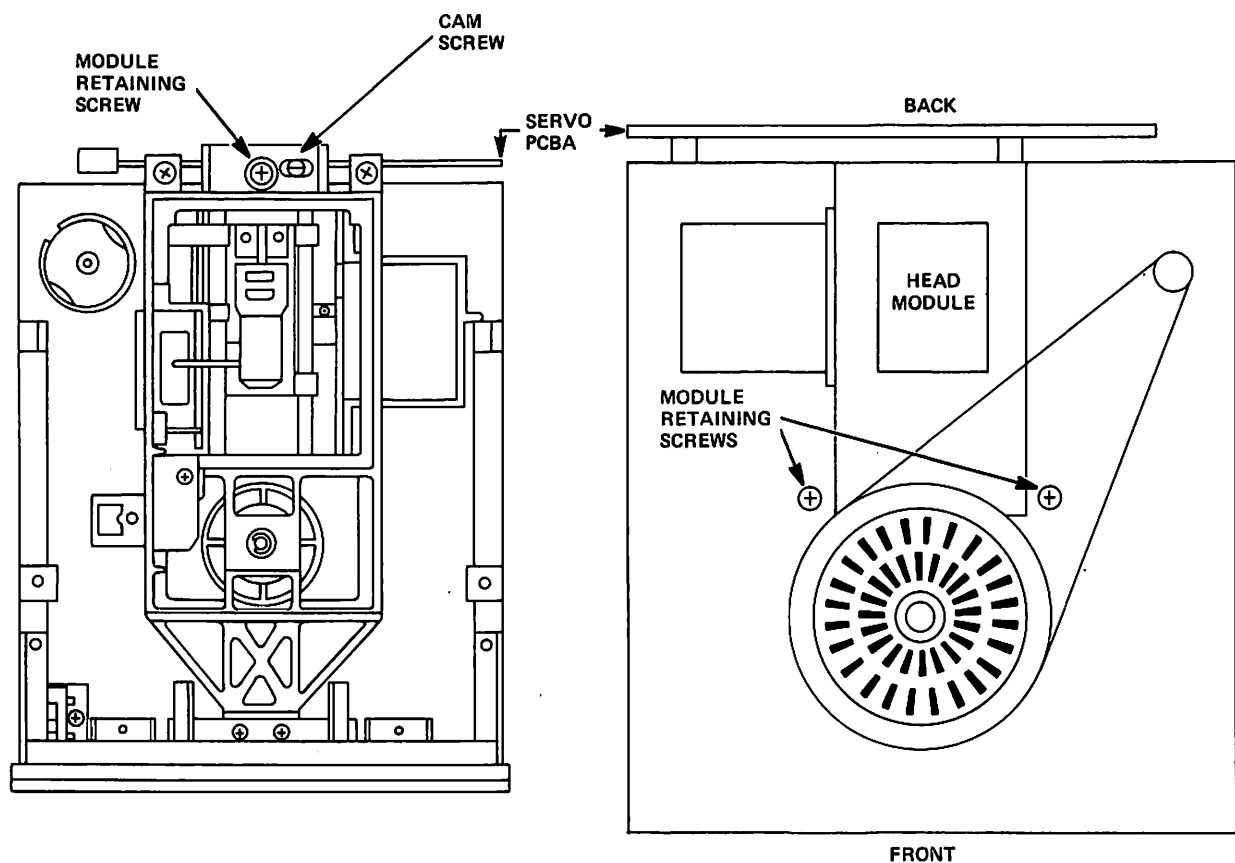

Figure 2-6
2.2.2.1 Turn the three (3) module retaining screws – two of which are located underneath and one of which is located at the back of the disk drive in the center – counterclockwise one-half (1/2) turn (see Figure 2-6) with a Phillips screwdriver.
2.2.2.2 Turn the cam screw (see Figure 2-6) counterclockwise with a flat blade screwdriver.
2.2.2.5 Tighten the three (3) module retaining screws (see Figure 2-6) with a Phillips screwdriver.